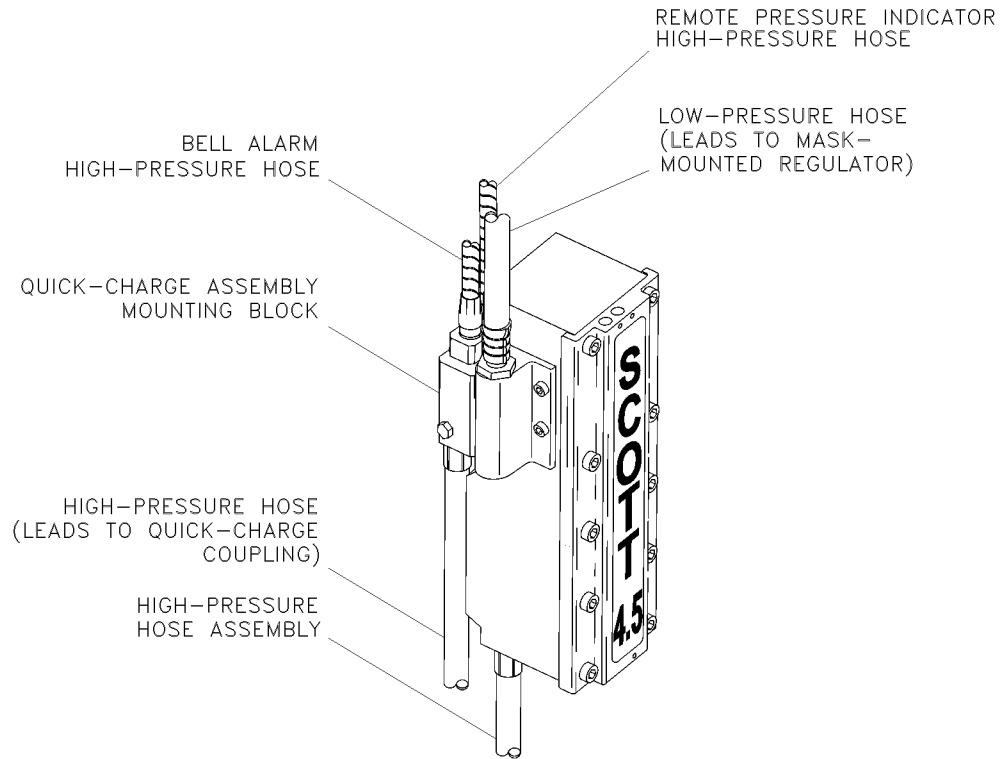

Figure 077-3-6. Pressure Reducer (Configurations 1, 2, and 3) Supported Components
1. **Pressure Reducer.** The pressure reducer (Figures 077-3-6 and 077-3-7) is a multifunctional component that is attached to the backframe on a mounting plate and, depending upon the SCBA configuration, couples to the cylinder valve through either a high-pressure hose assembly or a RIC UAC assembly.